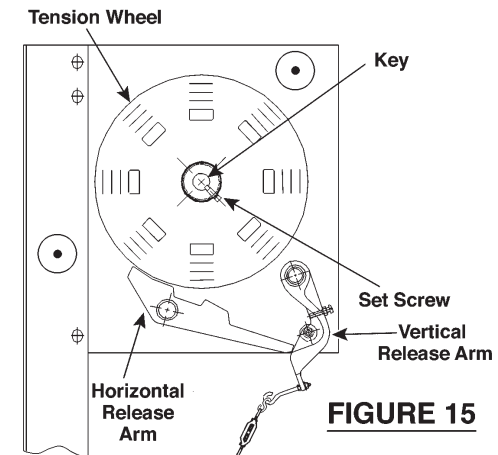

FIGURE 15
- Position tension wheel in vertical alignment with release arms. Insert key and tighten set screw. NOTE: Right Hand Drive shown in Figure 15; LH opposite.
- Use S-hook to attach turnbuckle to eyebolt on vertical release arm. See Figure 15.